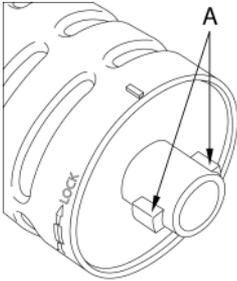
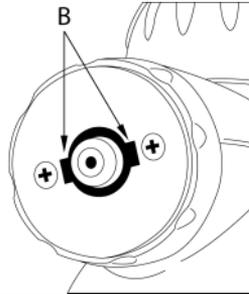

FIGURE 1
FIGURE 2
1. Insert cylinder on back of Steam Jet Nozzle (FIGURE 1) into hole on face of main unit (FIGURE 2). Insert it so that two tabs on sides of cylinder (FIGURE 1-A) fit into two tab holes on sides of main hole (FIGURE 2-B).